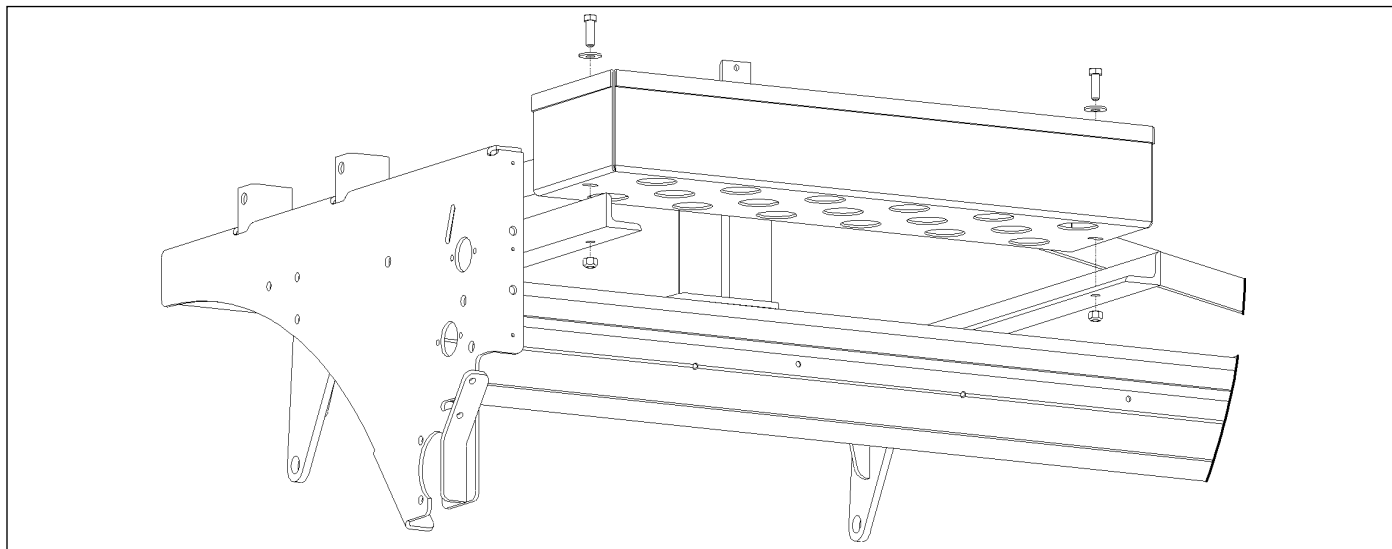

Figure 3-11: Rock Box
- Attach Rock Box to Frame angles just in front of the Seedbox with 1/2-13 x 1-1/2 capscrews, flat washers and lock nuts. **See Figure 3-11.**